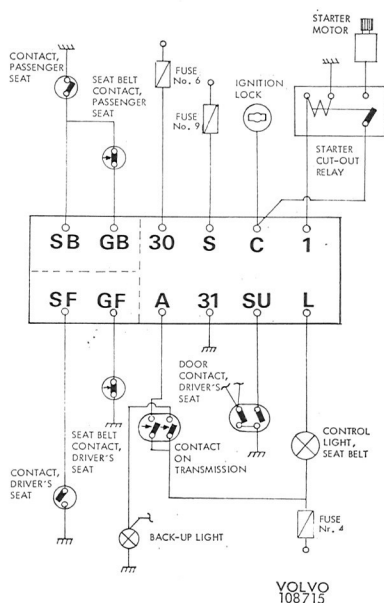

Fig. 3-127. Interlock Control System, wiring diagram
A relay in the Interlock Control Unit is governed by the indications from the driver's side and the passenger's side. When the seat belt is used correctly, the relay closes the circuit from "C" to "1" (relay rest position), and the engine can be started. See Fig. 3-127, pos. 1.